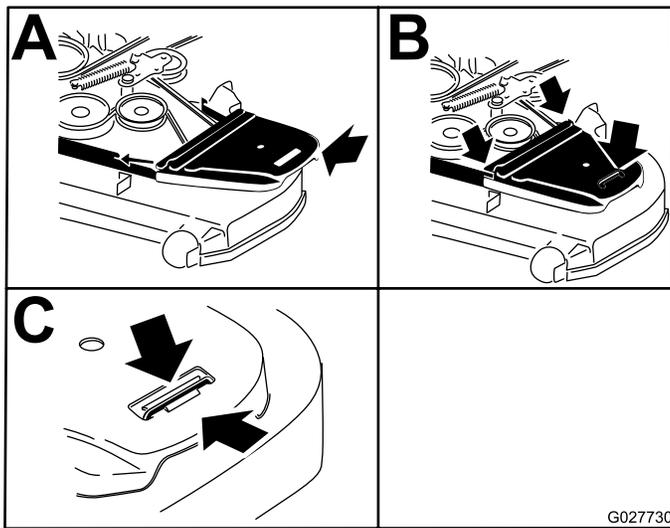

Figure 77
14. Install the belt covers and the bolts attached to them (Figure 77).